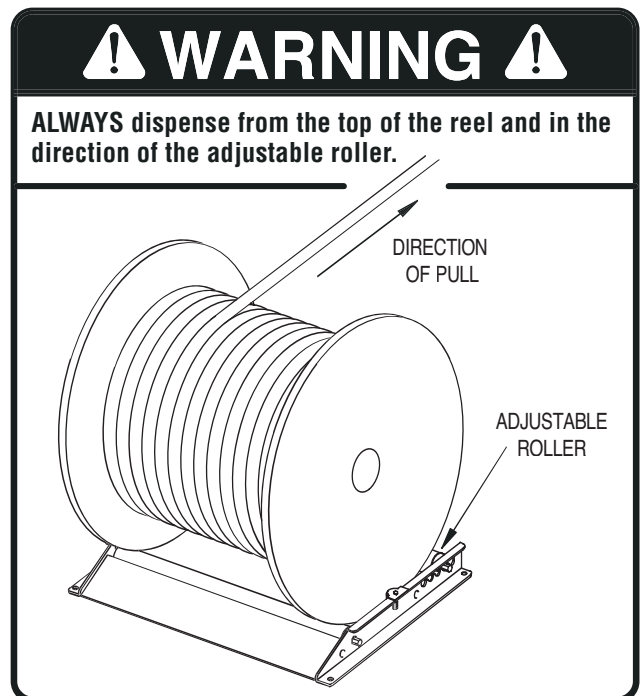

FIGURE 1
- ALWAYS dispense from the top of the reel. ( See Figure 1 )
3. Place reel on reel roller ensuring that you will dispense from the top of the reel and the pull direction is toward the adjustable roller. ( *See Figure 1.* )